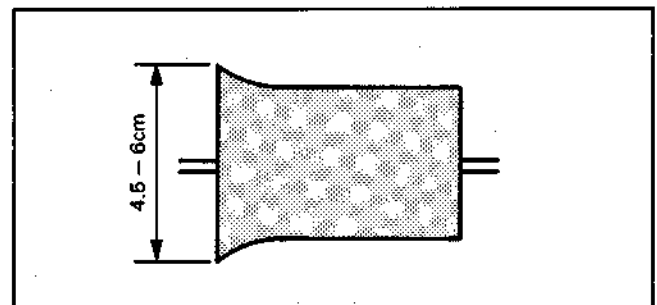

Fig. 1-10 No. 1 Guide Waveform
- 3) Turn No. 1 guide adjustment nut clockwise so that the RF output waveform entrance side is as shown in Fig. 1-10.